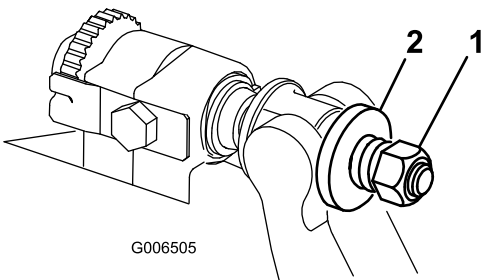

Figure 31
4. Tighten the spring tension nut until the spring is collapsed, then back off 1/2 turn (Figure 31).